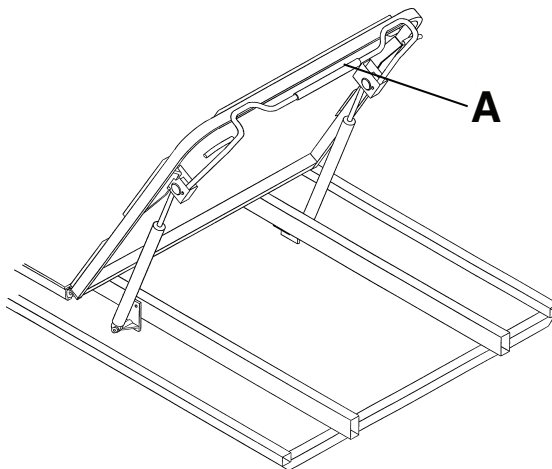

Figure 4: Pneumatic Fowler
To raise the Fowler backrest, squeeze the red Fowler backrest release handle (A) and pull the Fowler backrest up to the desired position (Figure 4 on page 15).